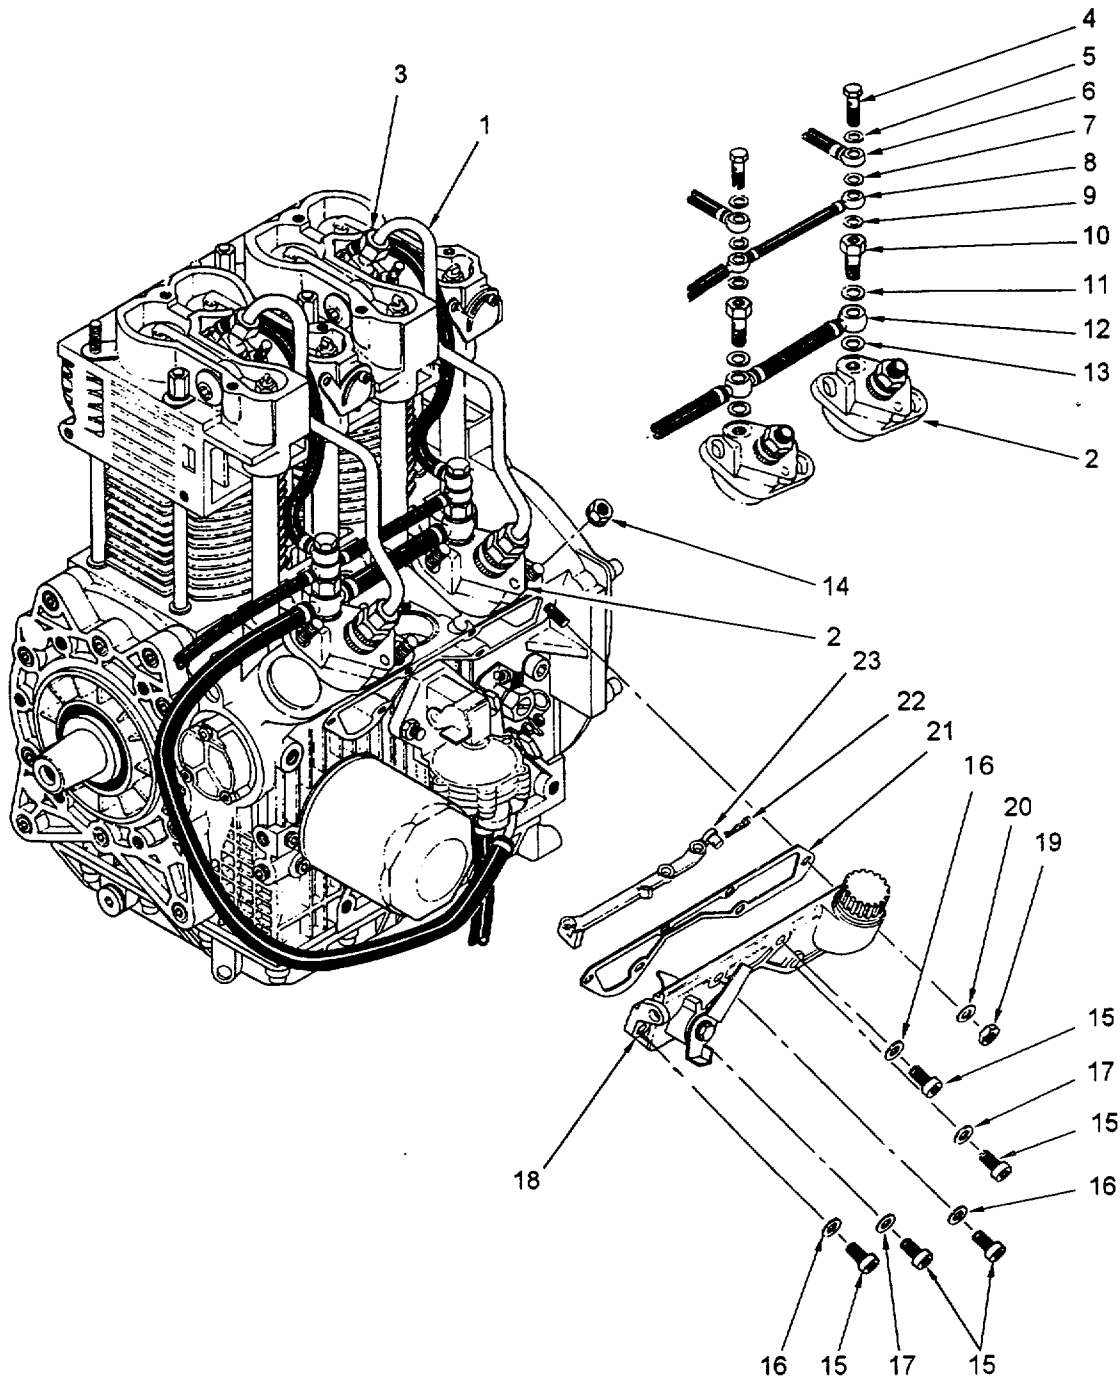

Figure 6-7. Fuel System Components Removal
6.3.8 Remove Injection Pump. (Refer to figure 6-7.)